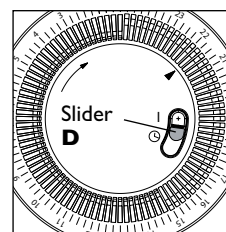

Fig. 5
8. Models with 24 hour timer (C)
If you wish to operate the heater without the timer, position the slider on position I. On the contrary if you wish to operate the heater at a set time, first put the slider (D) on position ⌚ (fig. 5) then proceed as follows:
- To turn the appliance off completely, turn the dial (A) to the "0" position and unplug from the mains.